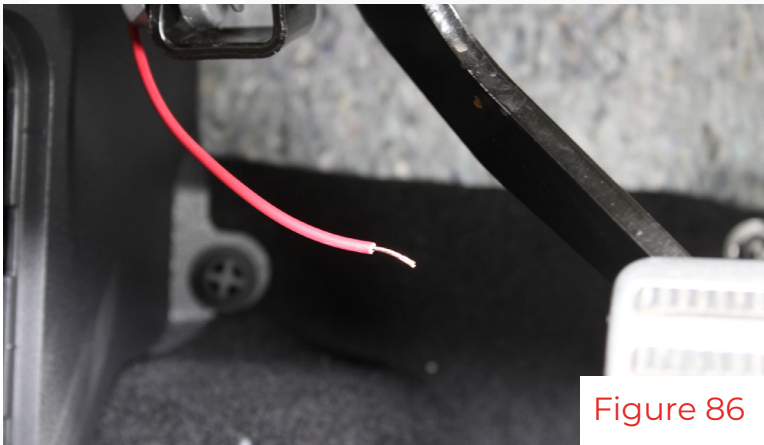

Figure 86
38. Install the fuse tap to the fuse box. Be sure **not** to cut off the blue butt connector from the fuse tap. Then use a wire stripper to strip the wire and make crimp connection on the fuse tap(fig 86 & 87).